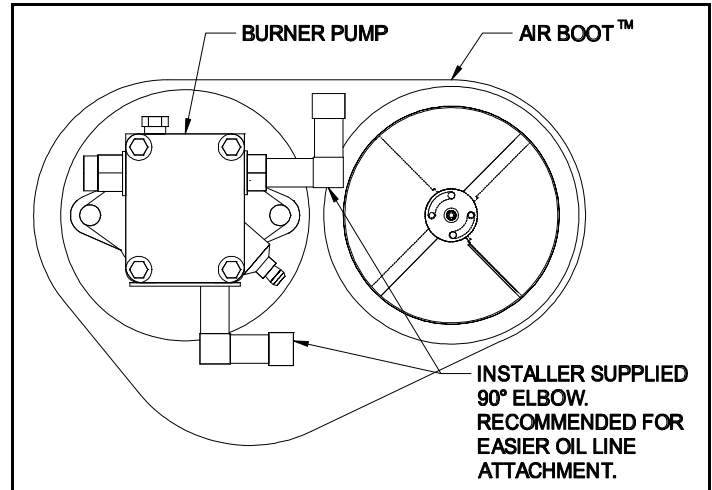

Figure 1
1. Remove the oil pump and air bands from the burner housing. Position the Air Boot™ over the burner housing on the intake. Align the holes in the Air Boot™ with the holes in the housing and re-attach the oil pump. (See Figure 1) **NOTE:** *Replace pump coupling with the coupling supplied with kit.* Mount VRV tee assembly or 90° elbow onto the Air Boot™ intake. Fasten using three (3) sheet metal screws on all joints. (See Figure 2)